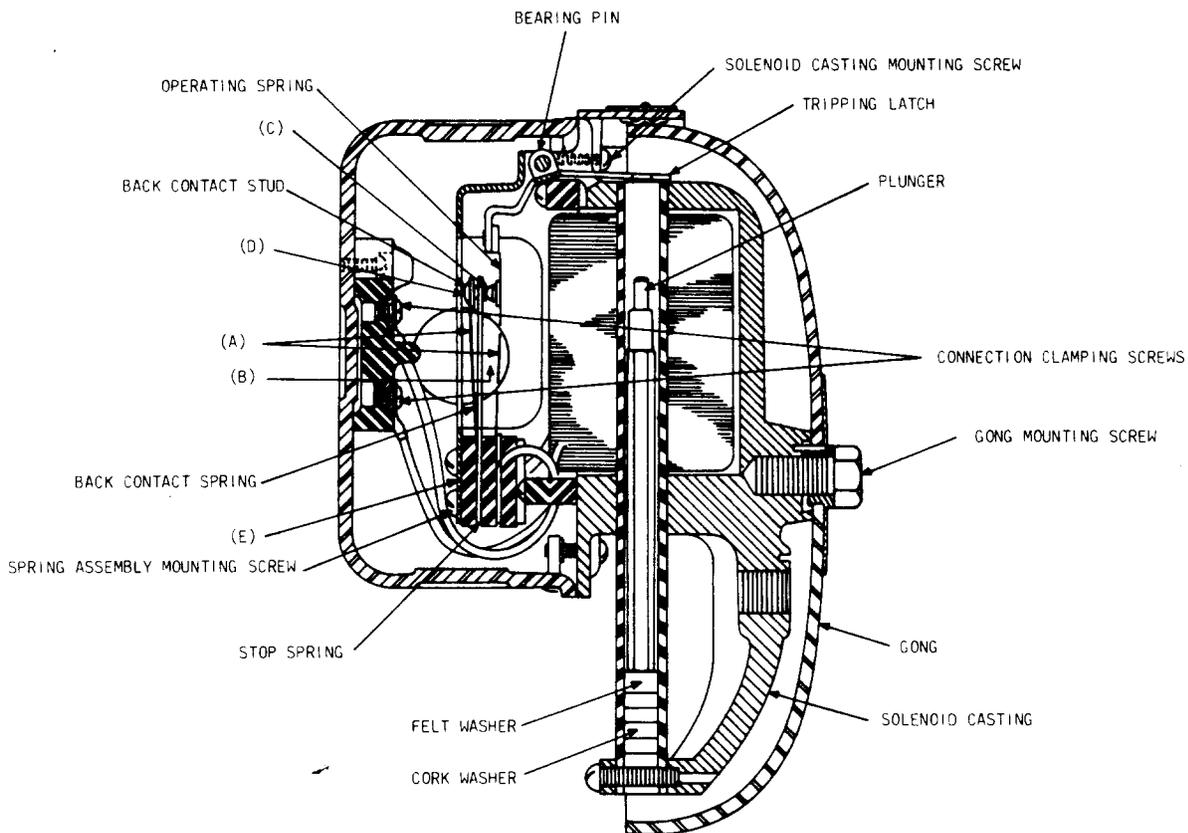

Fig. 2—Self-Interrupting Solenoid-Type Bells
***2.04 Straightness of Springs:** Figure 2(A)—All springs shall be free of sharp bends or kinks due to adjustment. A gradual bow in a spring is permissible.
***2.05 Separation Between Springs:** Figure 2(B)—There shall be a clearance between the operating spring and the stop spring whether in the operated or unoperated position of
***2.06 Contact Pressure:** Figure 2(C)—There shall be a pressure between closed contacts of
***2.07 Contact Follow:** Figure 2(D)—There shall be a follow on the back contact of
2.08 Tightness of Spring Assembly: Figure 2(E)—All springs in a given assembly shall be held in their relative positions to one another by being securely fastened to the mounting bracket at their bases.